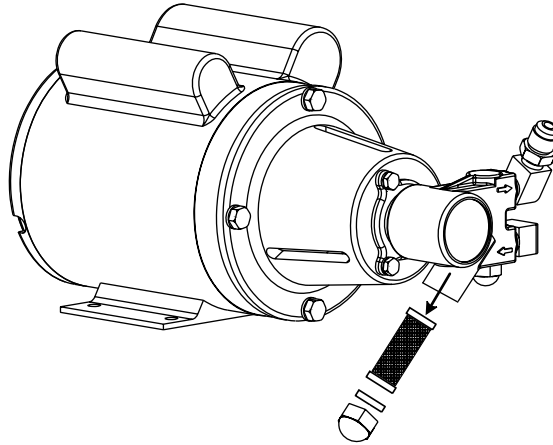

**Figure 8-8 Coolant Tank Reservoir Drain Petcock Location**
3. Drain the power supply reservoir by opening the petcock on the bottom of the reservoir tank. Close petcock after coolant is drained. See Fig. 8-8. On older systems, there is either no petcock, or the petcock is in a different position than the one shown in the figure below. Siphon coolant out of the tank through the fill inlet if there is no petcock.